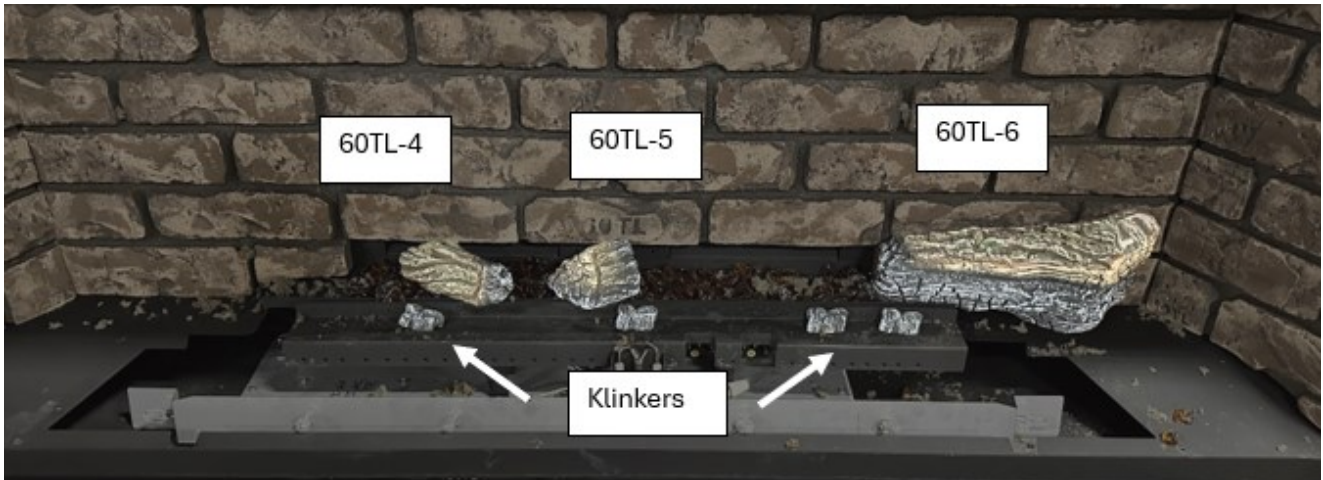

Figure 3 - Log Placement 1
2. Install part of the crushed media over the rear ember bed media tray. Place log #60TL-4, #60TL-5, and #60TL-6 as shown in Figure 3. Log #60TL-6 is positioned by (2) corresponding pins in the rear ember bed media tray. Log #60TL-4 and #60TL-5 will sit on crushed glass. Log #60TL-6 must lie flat on media tray. Failure to do so will negatively affect the flame. Install (4) small linkers on the bottom burner pan. Do not block any burner porting.